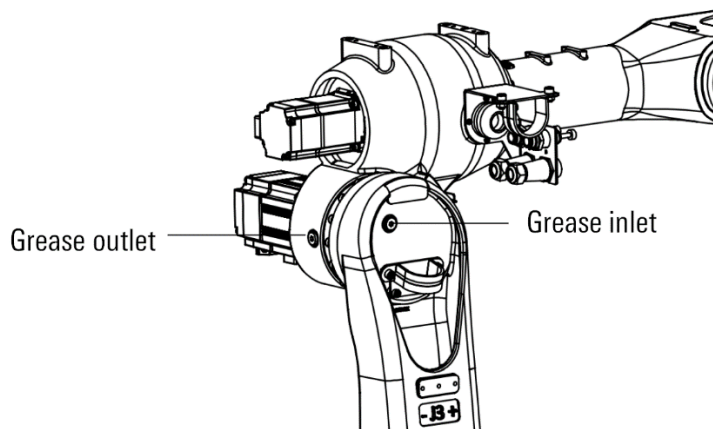

Figure 12-8 AIR12-1420 replacing the J3 axis reducer grease
- Step4. Remove the M10x1 plug of grease discharge port, as shown in Figure 12-8.